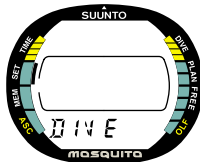

Fig. 4.7. Dive Setting Mode.
1. In the Setting Mode, press **S** three (3) times to select the Dive Setting Mode (Fig. 4.7.).
1. In the Setting Mode, press S three (3) times to select the Dive Setting Mode (Fig. 4.7.).